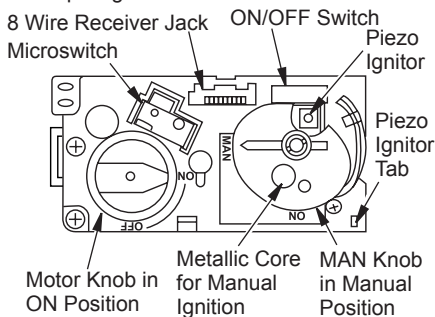
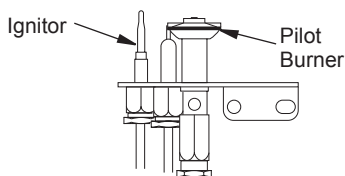

Figure 14 - Control Valve
Figure 15 - Pilot
4. Wait (5) minutes to clear any gas and then smell for gas around heater and near floor. If you smell gas, STOP! follow "B" on page 10. If you do not smell gas, go to next step.
5. Make sure ON/OFF switch is in "-" (ON) position.
6. With MAN knob on valve in MAN position, a metallic core is visible. (see Figure 14, page 12).
- Light pilot burner with a match, (see Figure 15).
- Wait (5) minutes to clear any gas and then smell for gas around heater and near floor. If you smell gas, STOP! follow "B" on page 10.
- MAN-knob on valve is in MAN position (see Figure 14). When in MAN position you can see a metallic core.
- Disconnect ignitor cable from receiver and connect to Piezo Ignitor Tab (see Figure 14 and Wiring Diagram on page 18).